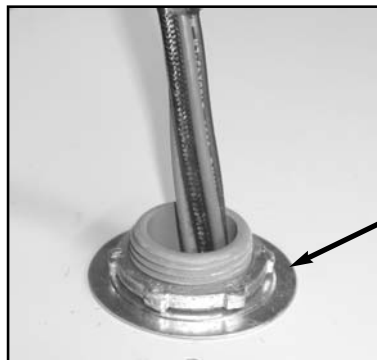

Figure 4
8. At top of cabinet and left side of Front Roof Panel, place Reducing Washer & Lock Nut over both CPVC Pipes. Use Channel Locks (or equivalent tool) to tighten until snug. See **Figures 4, 4a & 4b**.